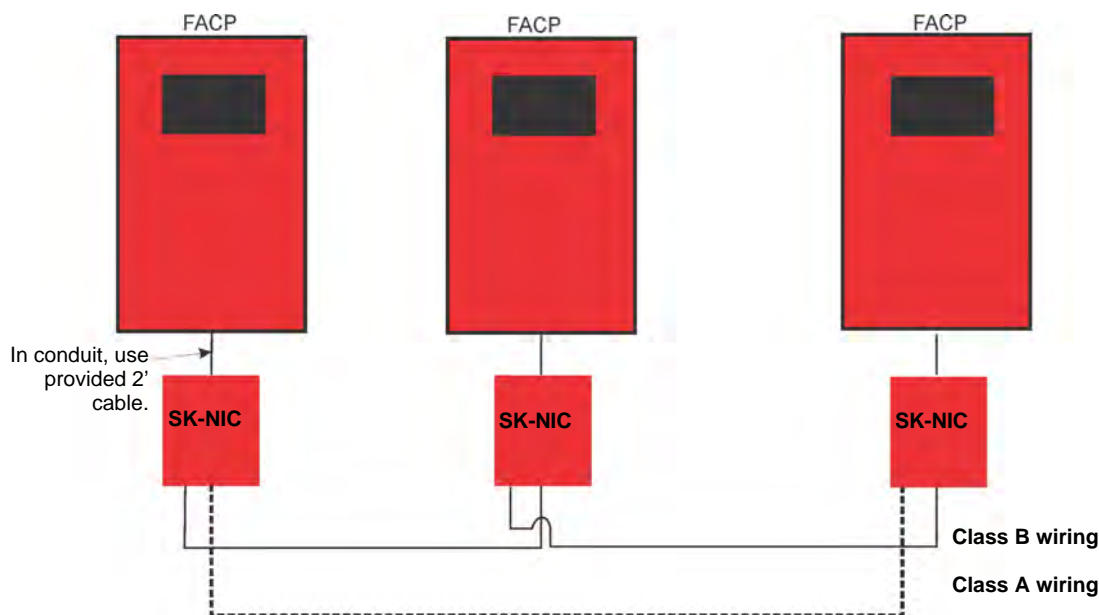

Figure 5.1 External SK-NIC Wiring Option
When networking in a group of IFP-75s you must use the SK-NIC to link the panels together. See Figure 5.1 for the external mounting of SK-NIC option.
2. Use the 6-pin cable included with SK-NIC to connect the IFP-75 to the SK-NIC. The 6-pin cable must be run in conduit. See Figure 5.1.